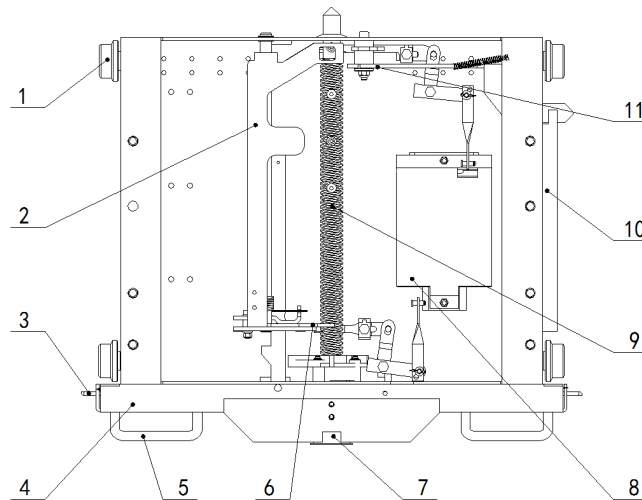

Fig.8
5.4 Working principle of the chassis (Fig. 8)